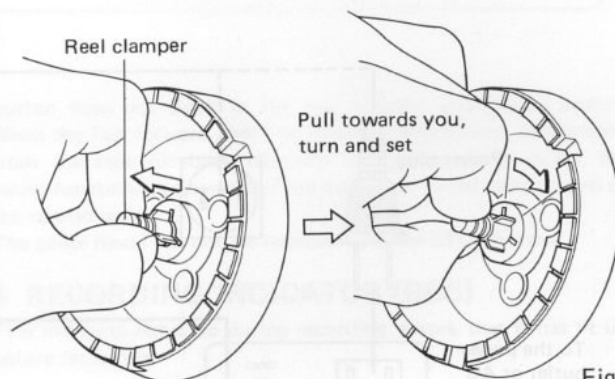

Fig. 6
2. As shown in Fig. 6, pull the reel clumper towards you, rotate it to the left or right, align it with the reel or reel adapter groove, and then remove your finger.